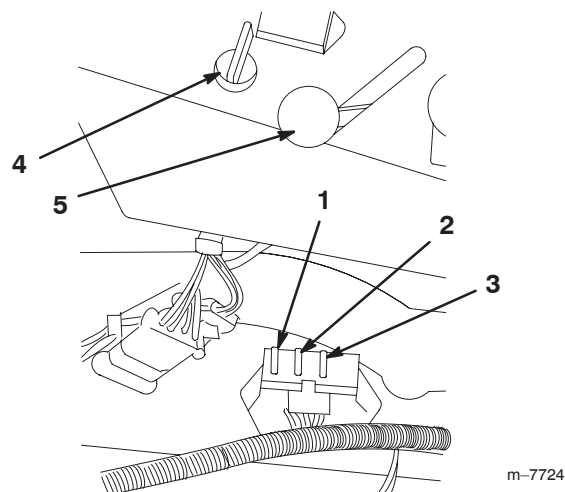

Figure 61
1. Raise the seat to gain access to the fuse holder (Fig. 61).
2. To replace a fuse, pull out on the fuse to remove it (Fig. 61).